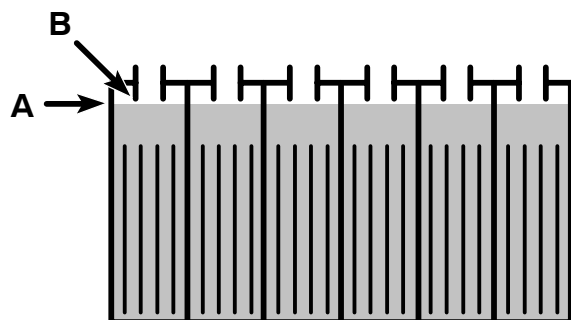

FIG. 24
- After charging, check the electrolyte level (A) again. The level should be approximately 1 cm from the bottom of the fill-port (B) (Figure 24). Add distilled water if needed. **DO NOT OVERFILL.**